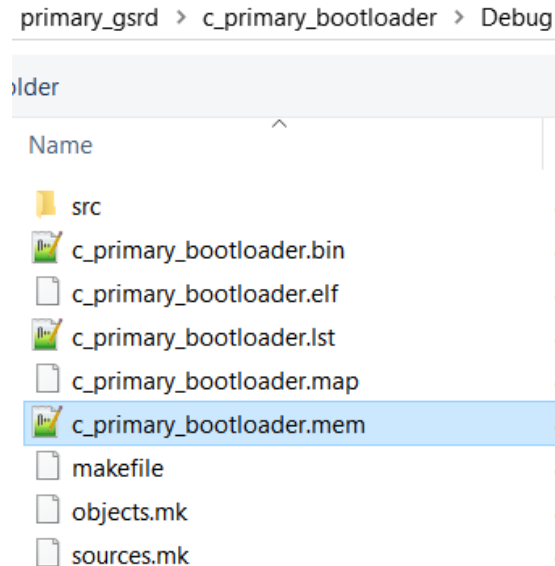

Figure 8.43. Initialize System Memory with c_primary_bootloader.mem
- Click on **Initialization File's Value** area with three dots to locate the generated **c_primary_bootloader.mem** Bootloader file as shown in Figure 8.43.
7. Select the **c_primary_bootloader.mem** file created as shown in Figure 8.43.